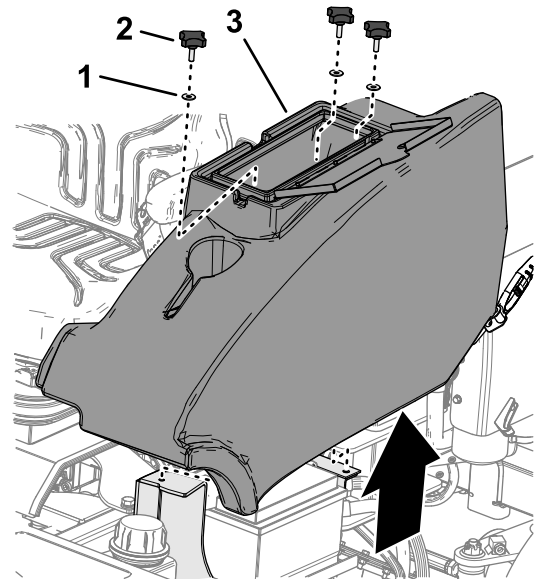

Figure 3
1. At the left side of the operator's platform, open the door of the storage compartment (Figure 3).
2. Remove the 3 knobs and 3 washers that secure the storage compartment to the machine, and remove the compartment (Figure 3).